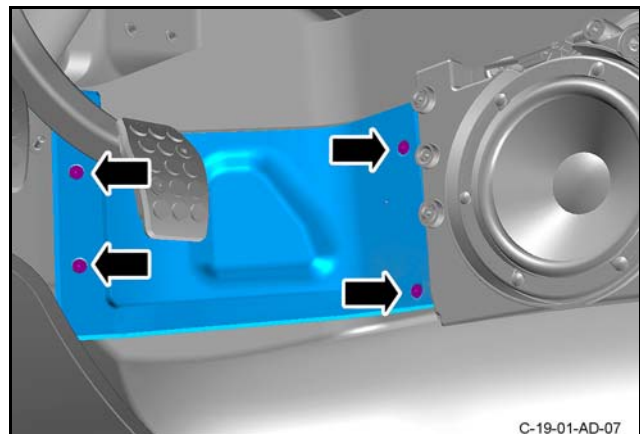

Figure 6
20. On all vehicles, remove the four screws that attach the accelerator scuff-plate (scuff-plate) to the body and remove the scuff-plate (Figure 6).